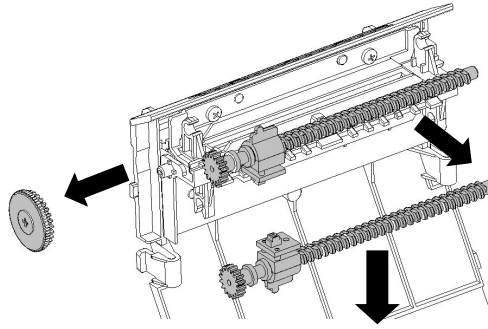

Figure 5.1-2 Cleaning mark sensor
- 2) Remove the thumb wheel as shown in figure 5.1-2, and then remove the screw where the mark sensor is installed (refer to figure 5.1-2) and wipe off the dust or stains on the sensor surface with soft cotton cloth dipped with pure alcohol (it should be wrung out). Wait for 5 to 10 minutes until pure alcohol evaporates completely, and then assemble it in the reverse steps. Check the cable connection after completing the assembly, and turn on the power if the cable is correctly connected.